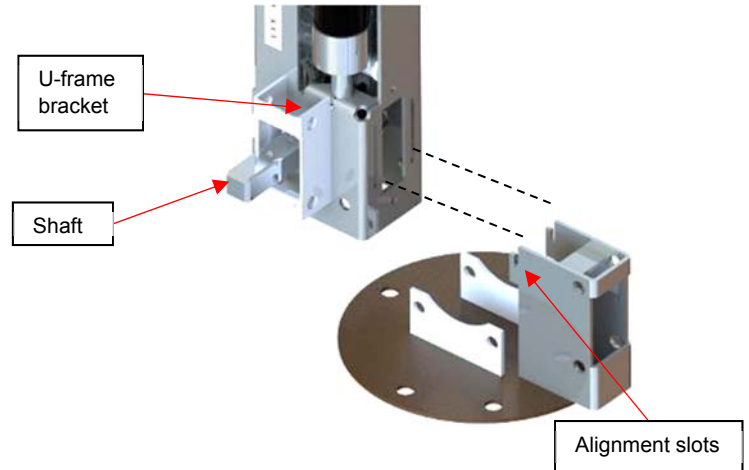
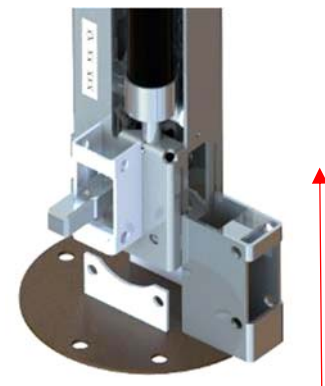

Figure 44
Figure 45
- 3) Install a first foot bracket to its non-motor-side jack. Make sure to align the foot bracket on the right side of the U-frame shaft as shown. (Figure 44)
- 4) Slide the alignment brackets of the foot in the alignment slots of the non-motor-side jack. (Figure 44 and Figure 45)
- 5) Push upwards to lock in place. Ensure full contact is made along the bottom plate. Using a rubber mallet may help lock it in place. (Figure 45)
- 7) For the right-hand non-motor-side jack assembly, repeat steps 3 to 6, putting the foot bracket on the left side at step 3. (Figure 44)